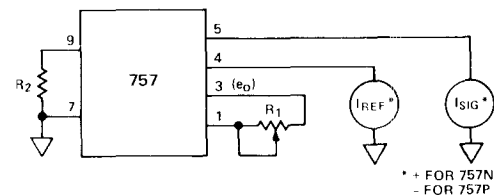

Figure 2. Scale Factor Adjustment
**Scale Factor** — A one volt per decade scale factor is available when pin 1 is tied to 3 and pin 7 is connected to 9. Higher scale factors are possible by using a potentiometer,  $R_1$ , between pins 1 and 3 and a resistor,  $R_2$ , between pins 7 to 9 as shown in Figure 2. The value of the required resistor is  $(15k\Omega) (K-1)$  where  $K$  is the desired scale factor. The approximate potentiometer value is also  $(15k\Omega) (K-1)$ . The scale factor adjustment procedure is as follows: